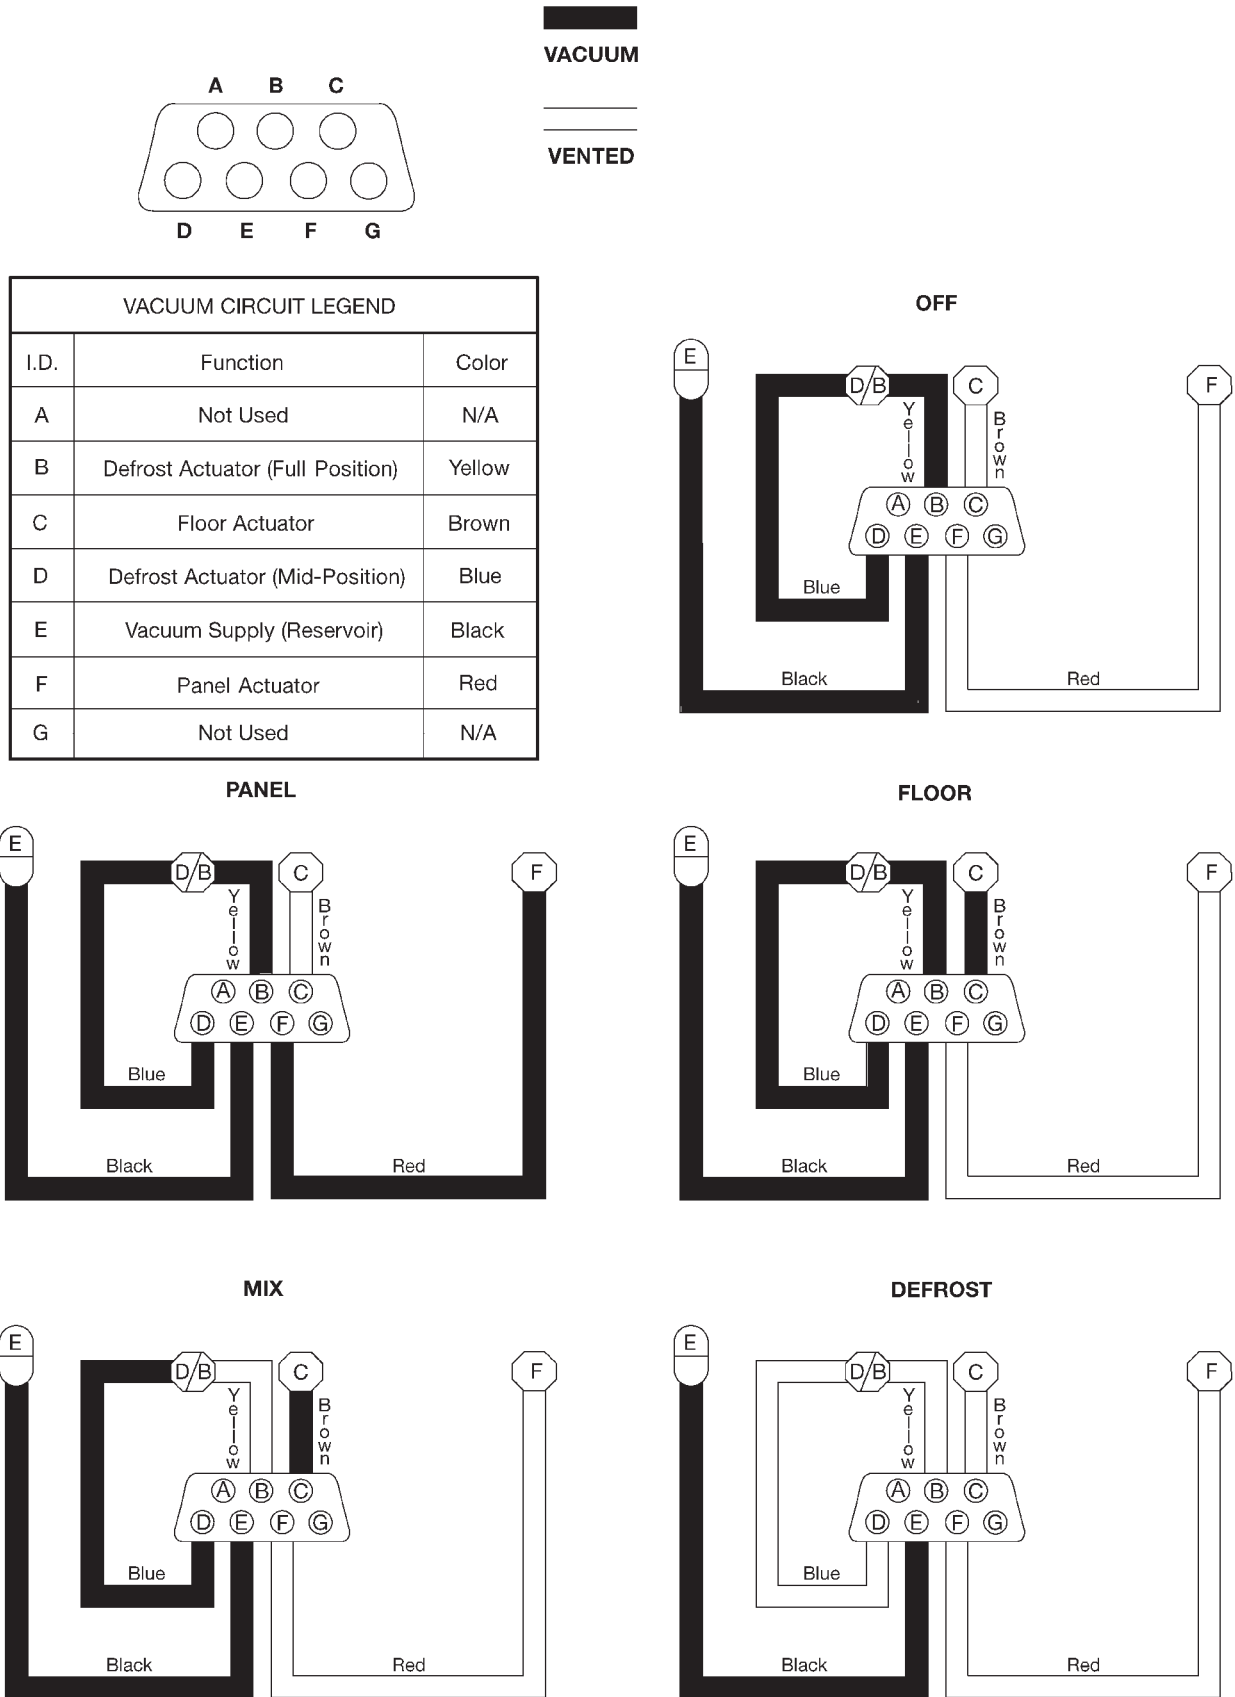

Fig. 10 Vacuum Circuits - Heater Only
(3) Determine the vacuum line color of the vacuum circuit that is leaking. To determine the vacuum line colors, refer to the Vacuum Circuits chart (Fig. 10) or (Fig. 11).
(4) Disconnect and plug the vacuum line from the component (fitting, actuator, valve, switch, or reservoir) on the other end of the leaking circuit. Instrument panel disassembly or removal may be necessary to gain access to some components. See the service procedures in this group.
(5) Connect the test set hose or probe to the open end of the leaking circuit. The test set gauge should return to the 27 kPa (8 in. Hg.) setting shortly after